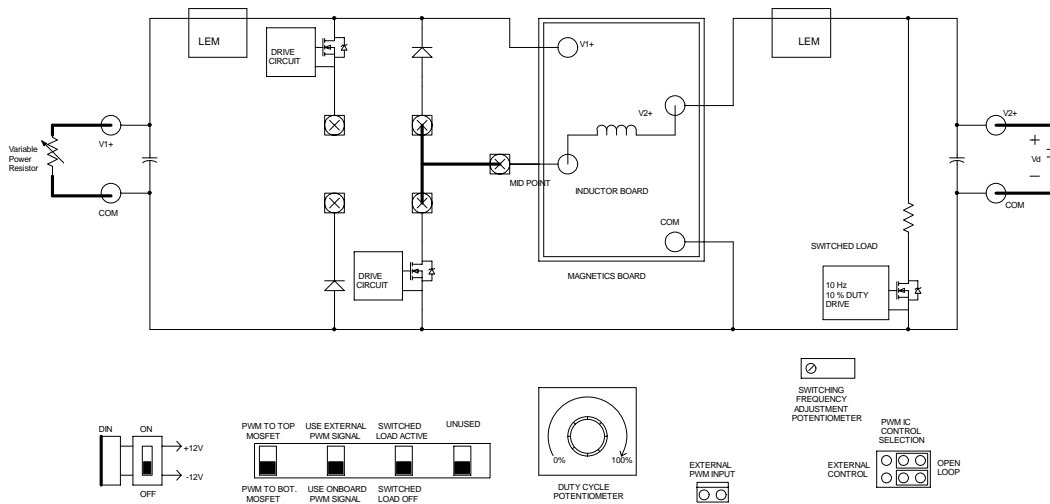

Figure 3.1: Schematic of Boost Converter
Make the connections of the power-pole board as shown in Fig. 3.1 to use the lower MOSFET and the upper diode.
- Confirm that you have connected the input and output terminals correctly to source and load as shown in Fig. 3.1.